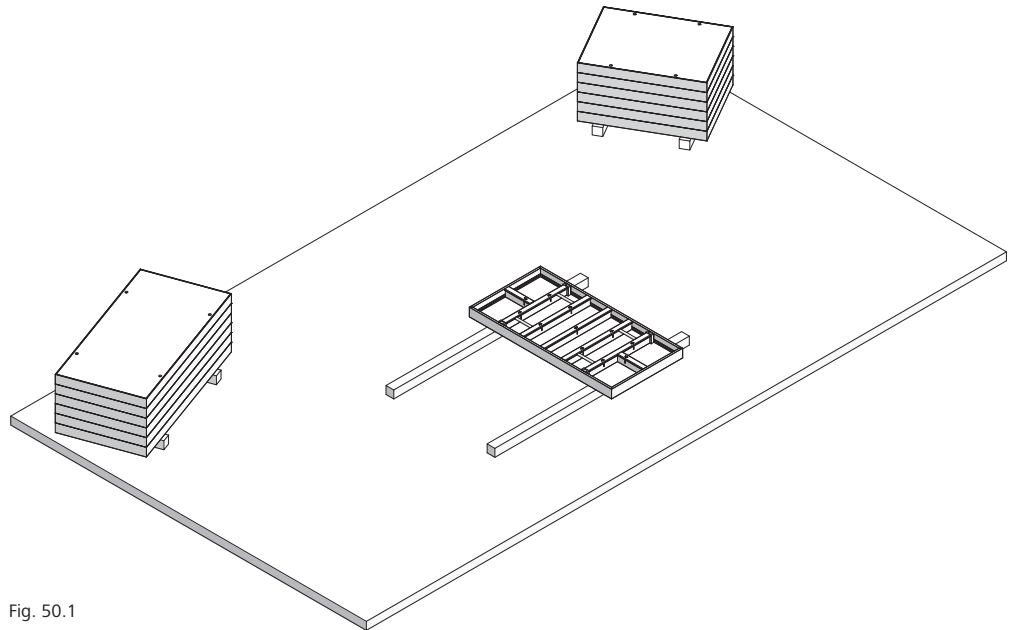

Fig. 50.1
2. Arrange panels face down as needed for the gang (Fig. 50.1).